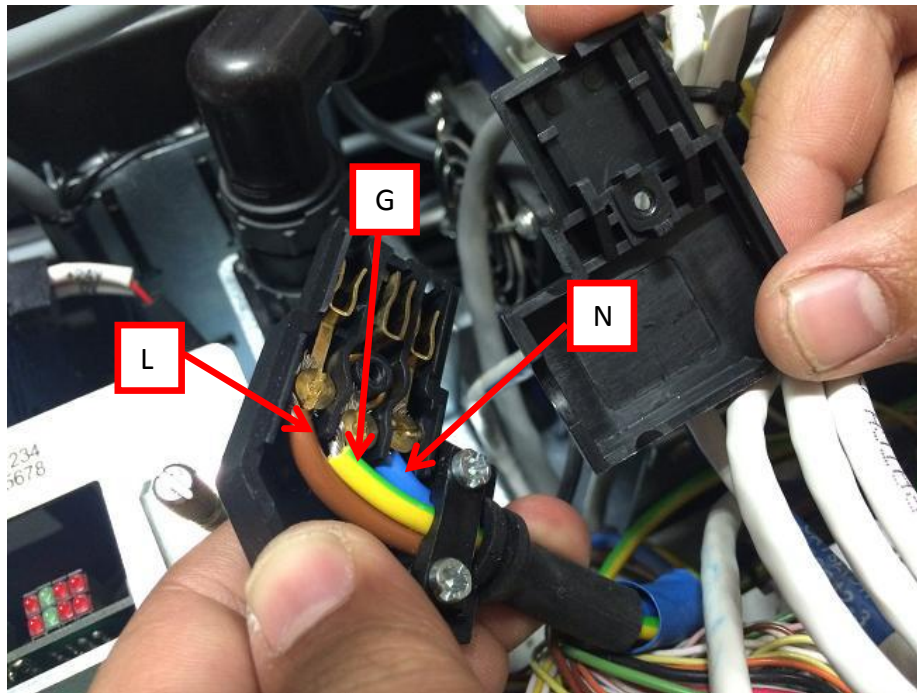

Figure 13
18. Open up insulator cover & identify Life(L),Ground(G) & Neutral(N) as Figure 13.